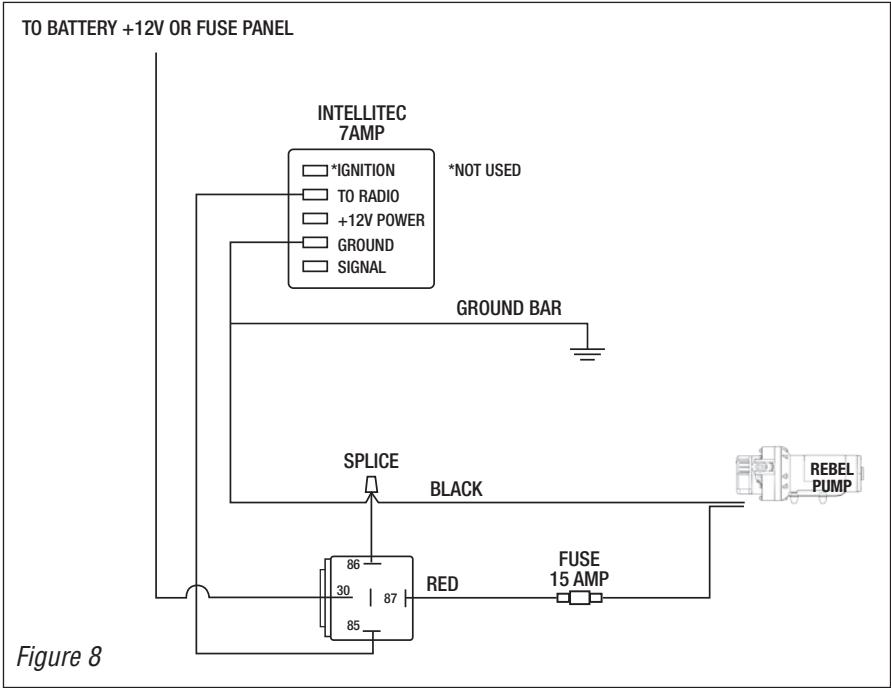

Figure 8
- b. Procure a 40 Amp rated relay (through either a local automotive store or directly through the Remco catalog, product number 20-267-6040-REM) to augment your existing controller. Please refer to Figures 3 & 4, page 13 and Figure 8, page 15.
5. At the end of your survey you should have determined how to wire the Rebel pump. Your alternatives are illustrated in Figure 1, page 12 (“no change,” also applicable for single switch systems), Figure 2, page 12, Figures 3 or 4, page 13 or Figure 8, page 15. You should also have determined how to plumb the pump. Your options are Figures 5, 6 or 7, page 14. Always make sure you have all hardware needed before you start the actual installation.